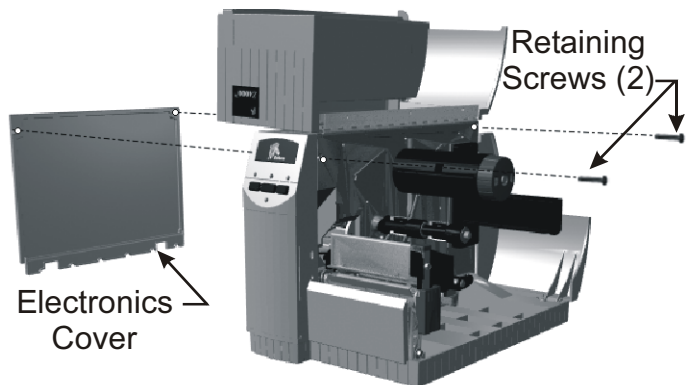

Figure 2. Remove the Electronics Cover
2. Open the media cover, loosen the two screws that secure the electronics cover to the printer. Remove the cover (see Figure 2).